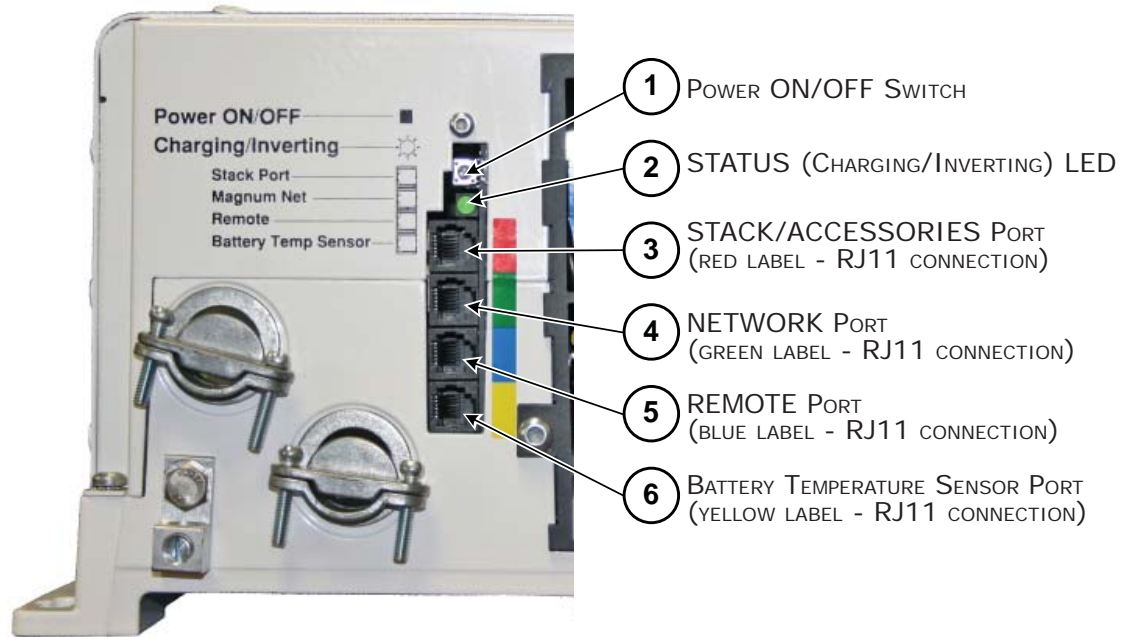

Figure 1-1, Power Switch, Status LED, and Accessory Connection Ports
The front of the MS inverter is equipped with the following features (refer to Figures 1-1 and 1-2):
**Info:** If the inverter is installed in an area where moisture may occur, we recommend putting silicone dielectric grease compound into the electrical ports (Items 3-6 as shown in Figure 1-1). Before installing the cables, or if leaving any ports open, squirt a liberal amount into each port. Silicone dielectric compound makes an effective moisture and corrosive barrier to help protect and prevent corrosion to the RJ11 connections.